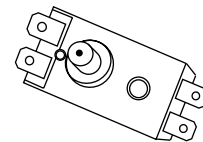

Fig. 12
– for RS1/RS2 series water heaters: unscrew retaining nut of the thermal switch, fastened on the flange of the heating element, turn over the thermal switch and press the button, located in the center of the thermal switch, until it clicks, Fig. 12;